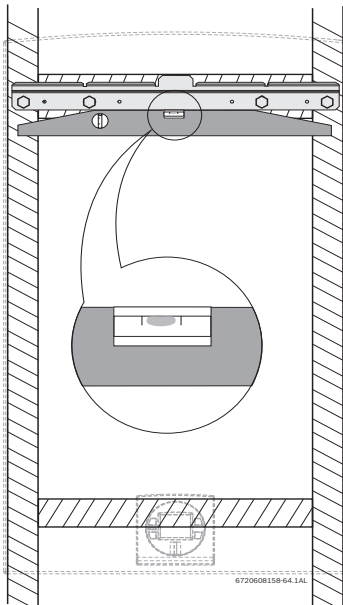

Fig. 26 Leveling the mounting bracket on the studs
- ▶ Secure the wall mounting bracket provided with the heater to the wall surface. The heater must be kept level on the wall surface, see Fig. 26, page 23.